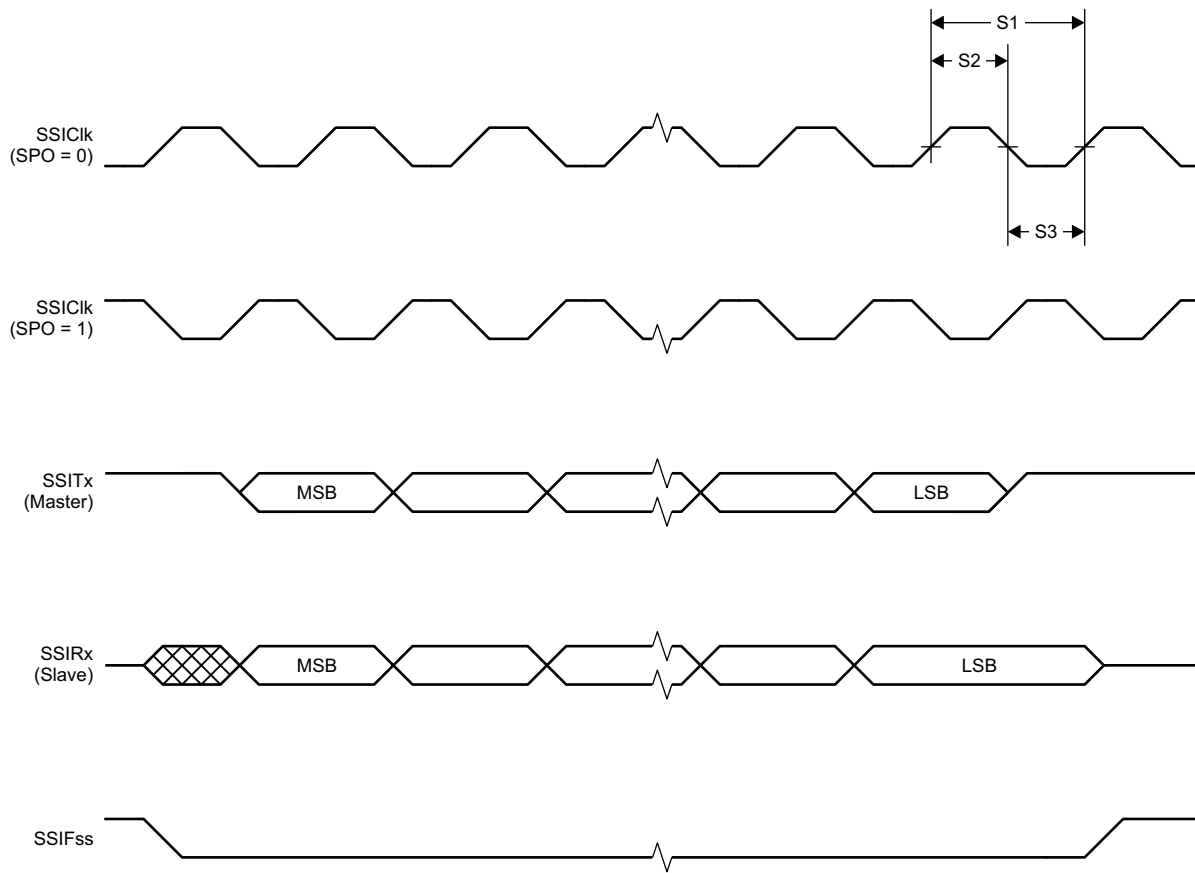

Figure 8-3. SSI Timing for SPI Frame Format (FRF = 00), With SPH = 1
(1) Refer to SSI timing diagrams Figure 8-1, Figure 8-2, and Figure 8-3.**Figure 8-1. SSI Timing for TI Frame Format (FRF = 01), Single Transfer Timing Measurement****Figure 8-2. SSI Timing for MICROWIRE Frame Format (FRF = 10), Single Transfer**